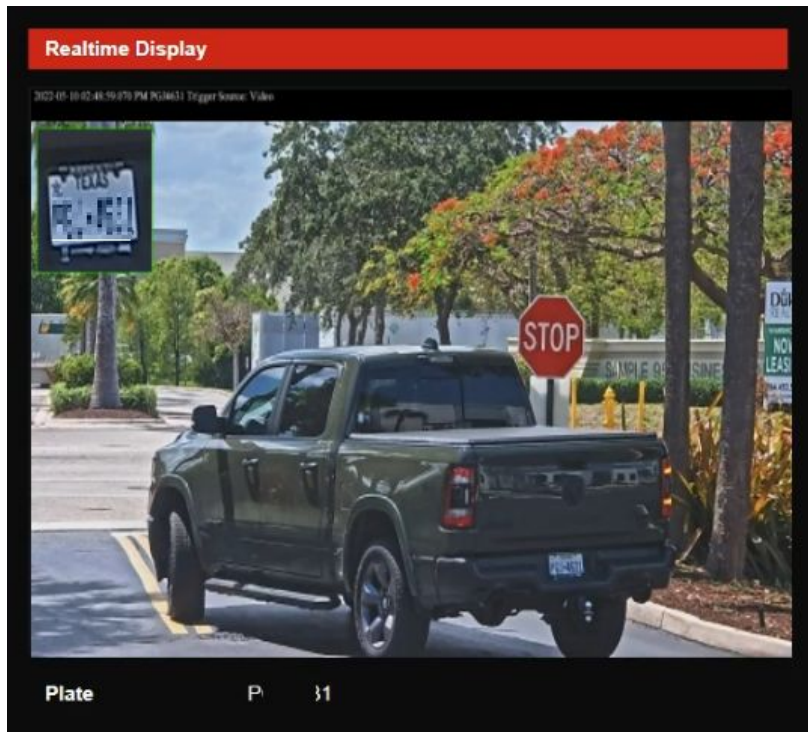

Figure 4-3
**Step 8** Any vehicle which has triggered the ANPR will show up under “Realtime Display” (Figure 4-3) section. This will help you configure the rules so that the passing vehicles can be captured reliably.